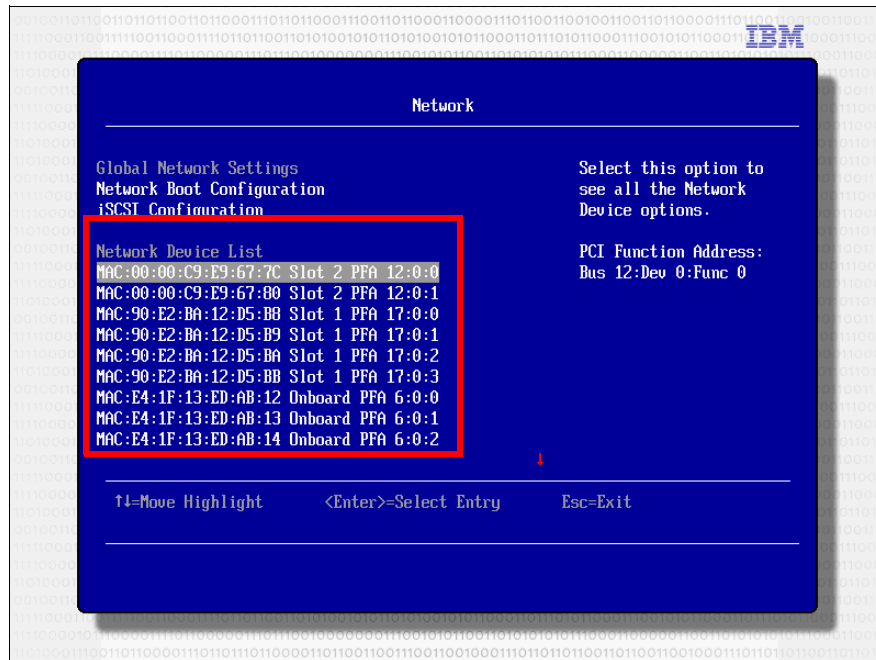
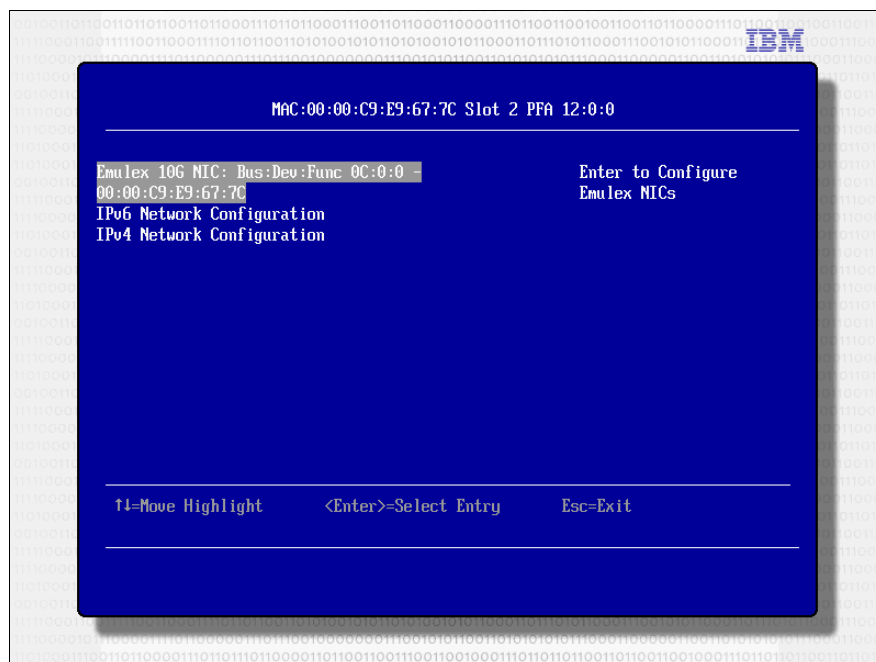

Figure 2-30 Network menu
Figure 2-31 Example that shows Emulex
- In the Network menu, you are provided with a list of all network devices within your server and the corresponding MAC addresses, as shown in Figure 2-30. If you know the MAC address of the Emulex, select it. If you do not know the MAC address, select list item by list item until the window shows the Emulex information, as shown in Figure 2-31.
- Select the Emulex adapter (in our case, **Emulex 10G NIC:Dev:Func 0C:0:0 - 00:00:C9:E9:67:7C**), as shown in Figure 2-31.